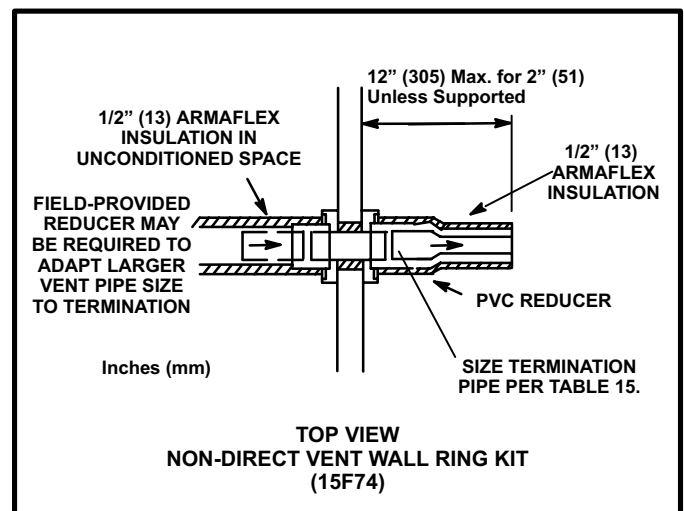

FIGURE 37
2. On field supplied terminations for side wall exits, exhaust piping should extend a maximum of 12 inches (305 mm) beyond the outside wall, unless support is provided in the horizontal section. See figure 37.